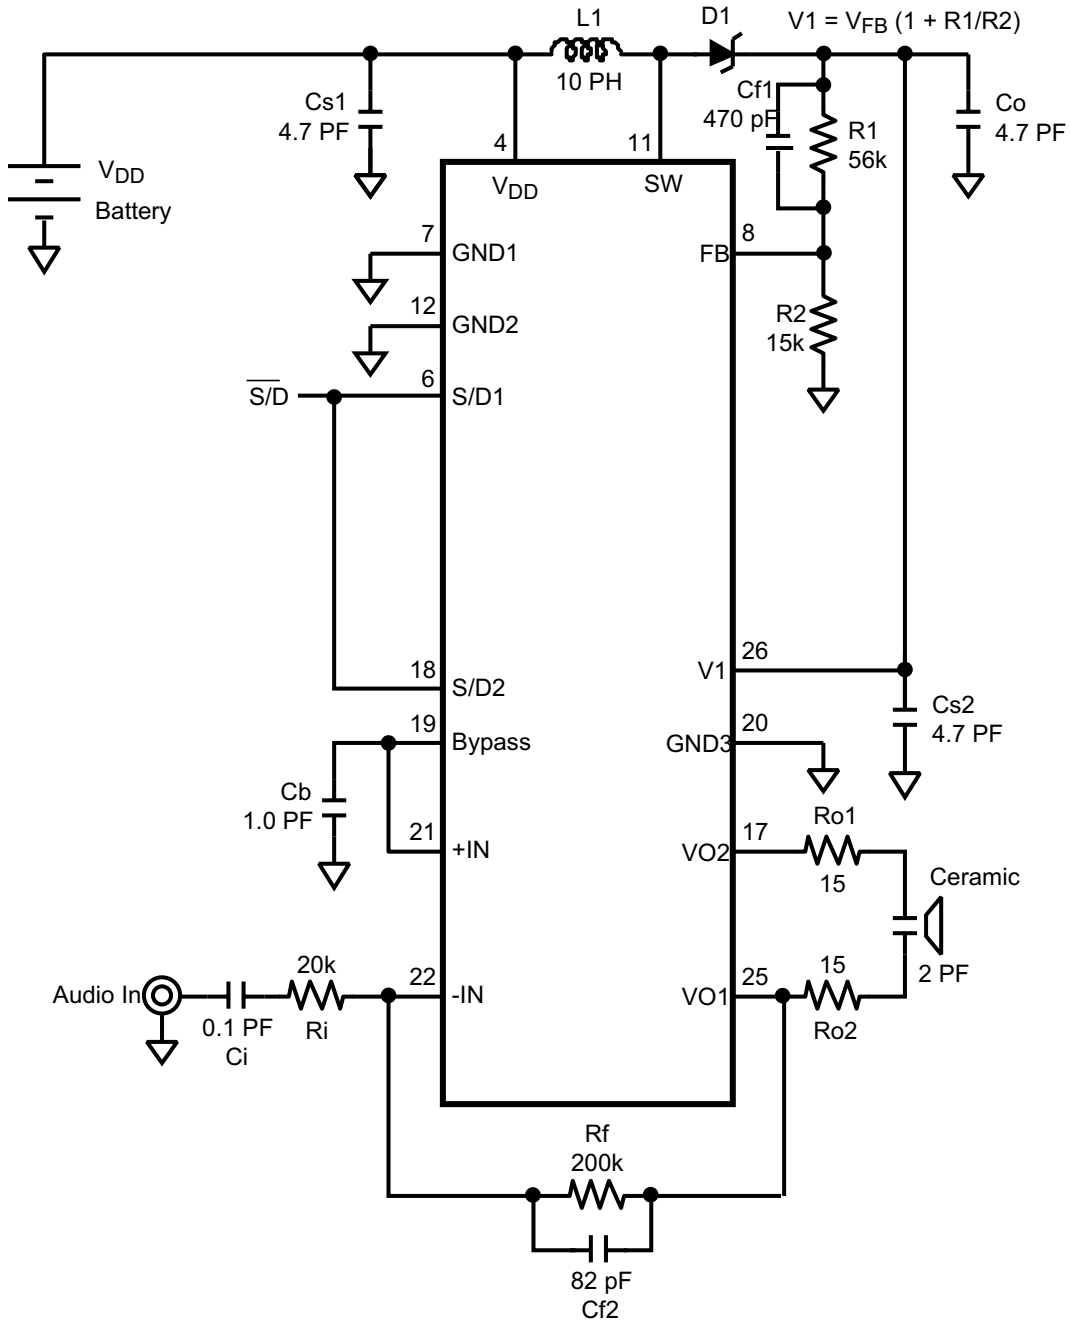

Figure 2. Typical Audio Amplifier Application Circuit
The following specifications apply for $V_{DD} = 4.2V$, $A_{V-BTL} = 26dB$, $Z_L = 2\mu F + 30\Omega$, $C_B = 1.0\mu F$, $R_1 = 56k\Omega$, $R_2 = 15k\Omega$ unless otherwise specified. Limits apply for $T_A = 25^\circ C$. See Figure 2.
- (1) All voltages are measured with respect to the GND pin, unless otherwise specified.
- (2) *Absolute Maximum Ratings* indicate limits beyond which damage to the device may occur. *Operating Ratings* indicate conditions for which the device is functional, but do not ensure specific performance limits. *Electrical Characteristics* state DC and AC electrical specifications under particular test conditions which ensure specific performance limits. This assumes that the device is within the Operating Ratings. Specifications are not ensured for parameters where no limit is given, however, the typical value is a good indication of device performance.
- (3) Typicals are measured at $25^\circ C$ and represent the parametric norm.
- (4) Limits are specified to Texas Instruments' AOQL (Average Outgoing Quality Level).
- (5) Datasheet min/max specification limits are specified by design, test, or statistical analysis.
- (6) Shutdown current is measured at an ambient temperature of $25^\circ C$. The Shutdown pin should be driven as close as possible to V_{in} for minimum shutdown current.
- (7) Shutdown current is measured with components R1 and R2 removed.
- (8) Feedback pin reference voltage is measured with the Audio Amplifier's V1 (pin 26) floating and no addition load connected to the cathode of D1 (see Figure 2).